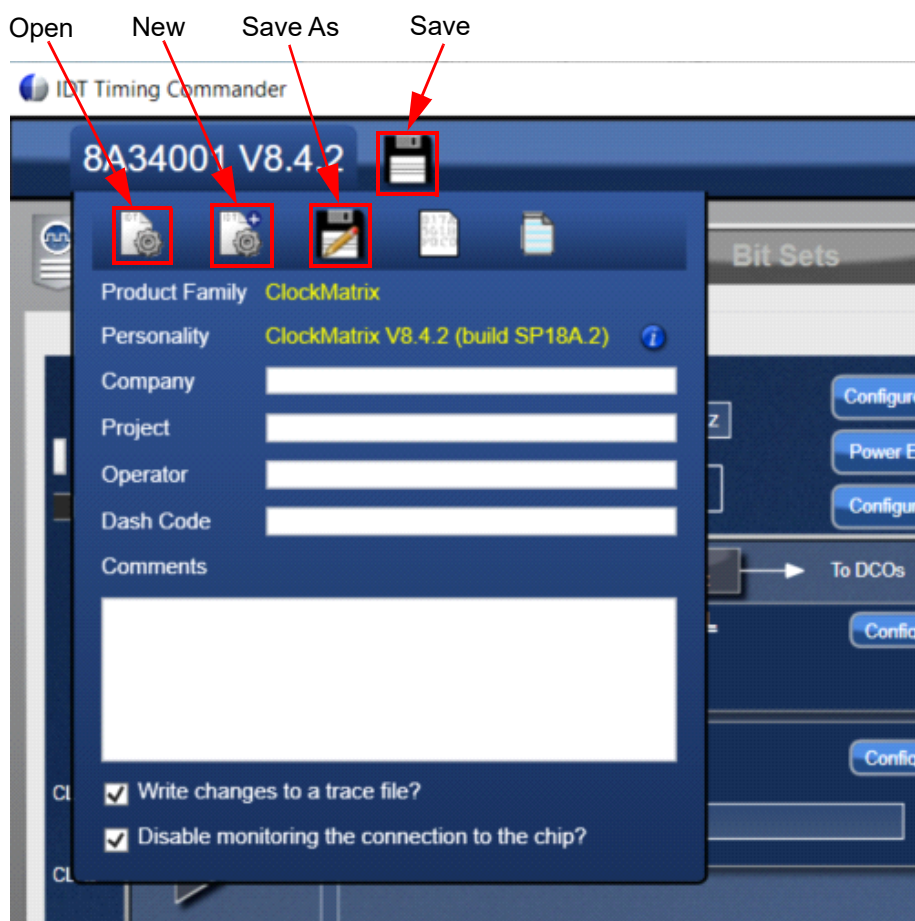

Figure 27. File Management Buttons
- A configuration (.tcs) file can be loaded here or a new one can be created (see Figure 27)